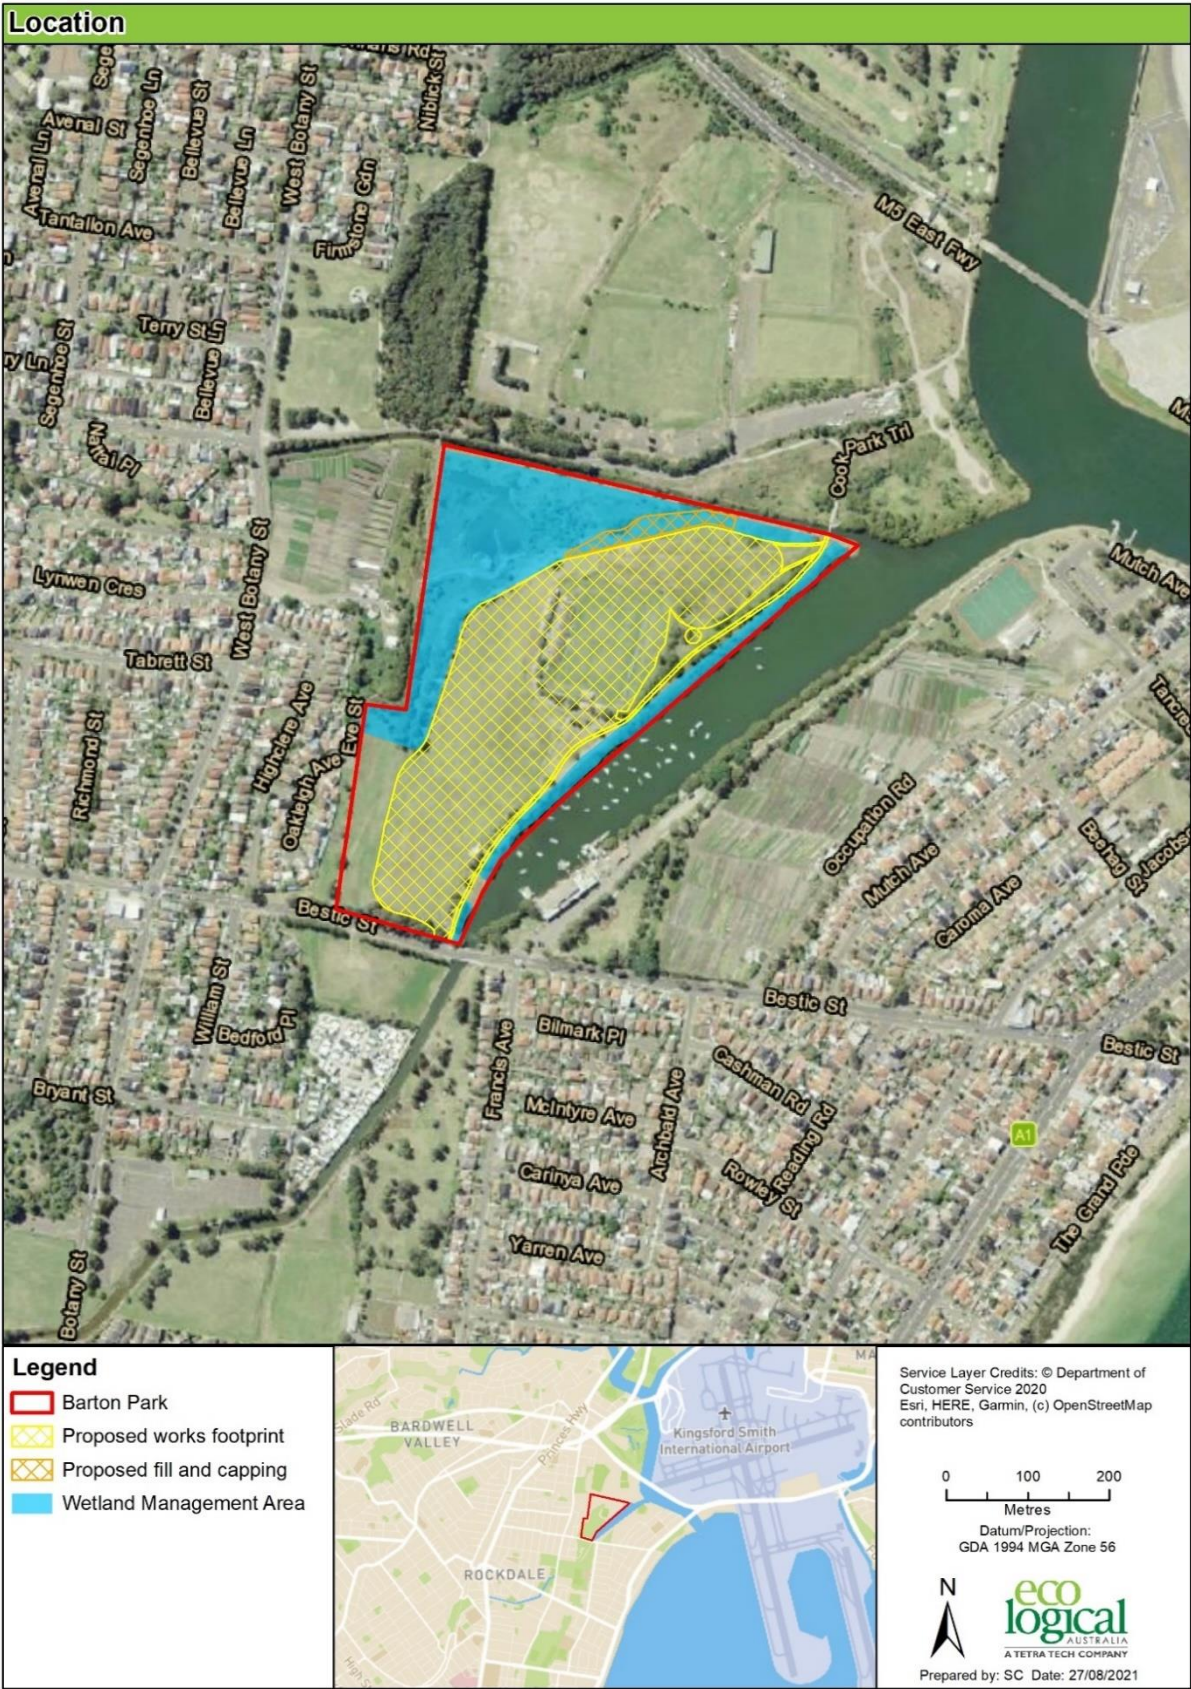

Figure 1: Barton Park area to which this CEMP applies
This Construction Environmental Management Plan (CEMP) has been prepared to comply with the requirements of the Barton Park Precinct Review of Environmental Factors (ELA 2021) and Statement of Environmental Effects (The Planning Hub, 2021) approved by Bayside Council. It identifies environmental management practices to be followed during construction to ensure direct and indirect impacts are minimal and low risk. It relates to activities approved under Parts 4 and 5 of the NSW *Environmental Planning and Assessment Act 1979* (EP&A Act) for the Barton Park area indicated in Figure 1. It summarises information from the following sub-plans, and these should be referred to for further detail as required:
Barton Park Precinct is at 88-96 Bestic Street, Banksia (Figure 1) and comprises two land parcels:
For the purposes of this CEMP, the Barton Park subject site is categorised as follows (see Figure 1):
- Revegetation in the adjacent Landing Lights Wetland and along Muddy Creek (conservation area shown in Figure 1) (to be completed once construction is complete).